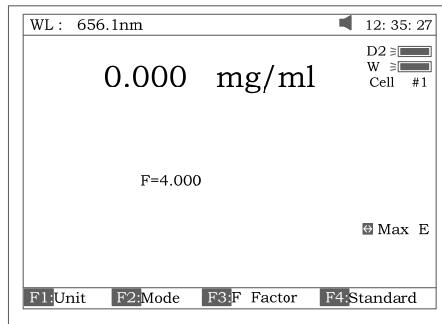

Fig 24
- 2) Press [F4] to input known Conc value, Fig 24. Then push the sample into lightpath to take reading of concentration.